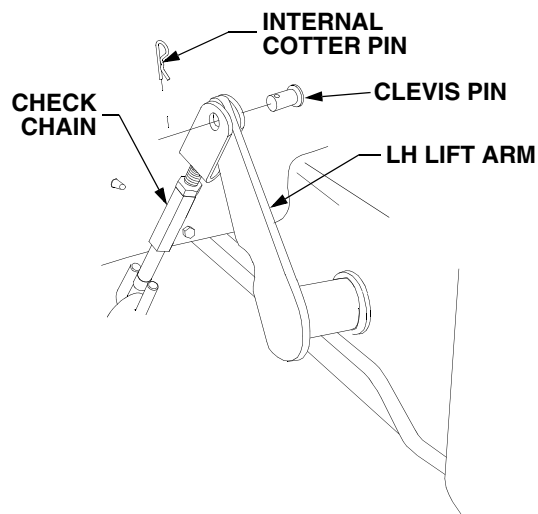

Figure 58
- Disconnect the check chain from the LH lift arm by removing the internal cotter pin and clevis pin. Reinstall the clevis pin and internal cotter pin in the check chain to avoid their loss. Refer to Figure 58.
- Slide the check chain of the deck over the LH lift arm. Align the holes, insert the clevis pin, and secure with the internal cotter pin. Refer to Figure 58.